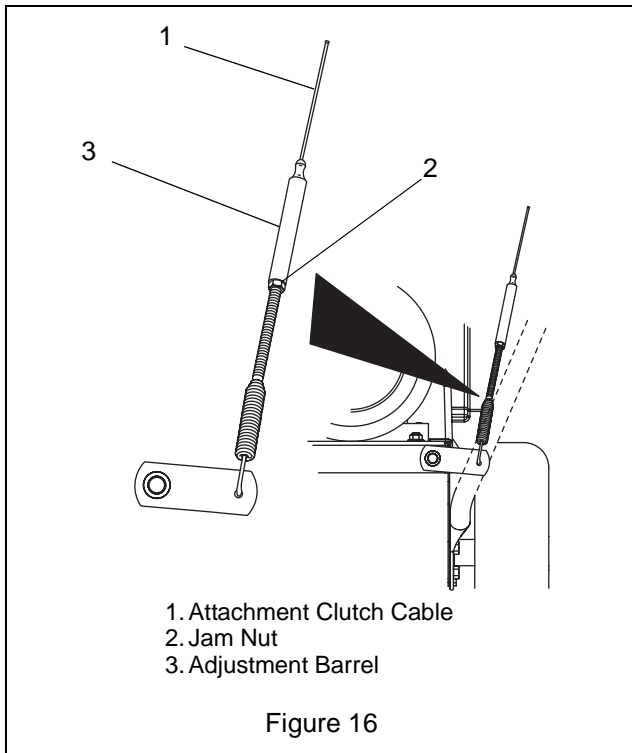

Figure 16
2. Loosen jam nut on attachment clutch cable adjustment barrel (Figure 16).